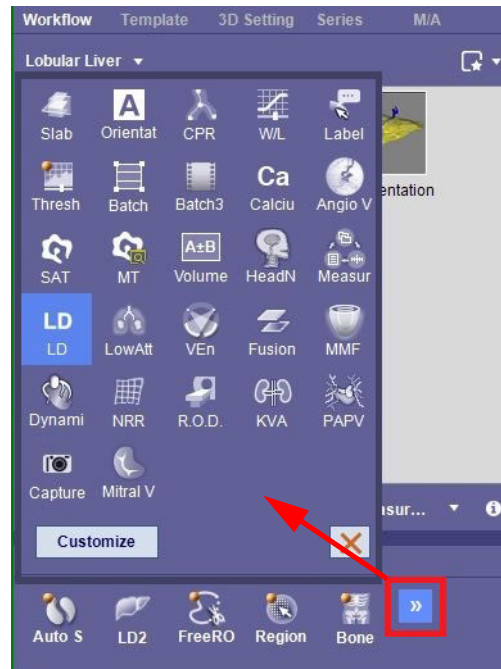

Figure 3-17: Hidden Tool Panel
1. LMB-click the double right arrow located on the right side of the Tool Panel. (Figure 3-17) A second panel is opened above the main tab, containing the available tools that are hidden.
1. LMB-click the **Customize** button in the lower-left corner. (Figure 3-17)